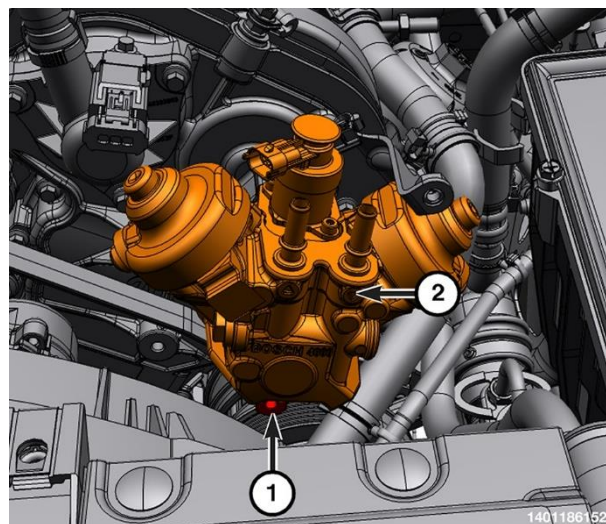

Figure 201 – HPFP Lower Bolt
46. Install the fuel injection pump (2) onto the Tool, High Pressure Pump Installation VM.10345 into the studs installed in the upper timing cover (Figure 201).
47. Install the fuel injection pump and hand tighten the lower bolt (1) (Figure 201).